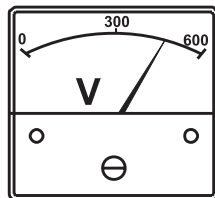

Figure 52. Voltmeter
6. The generator's **AC voltmeter** (Figure 52) will display the generator's output in **VOLTS**.